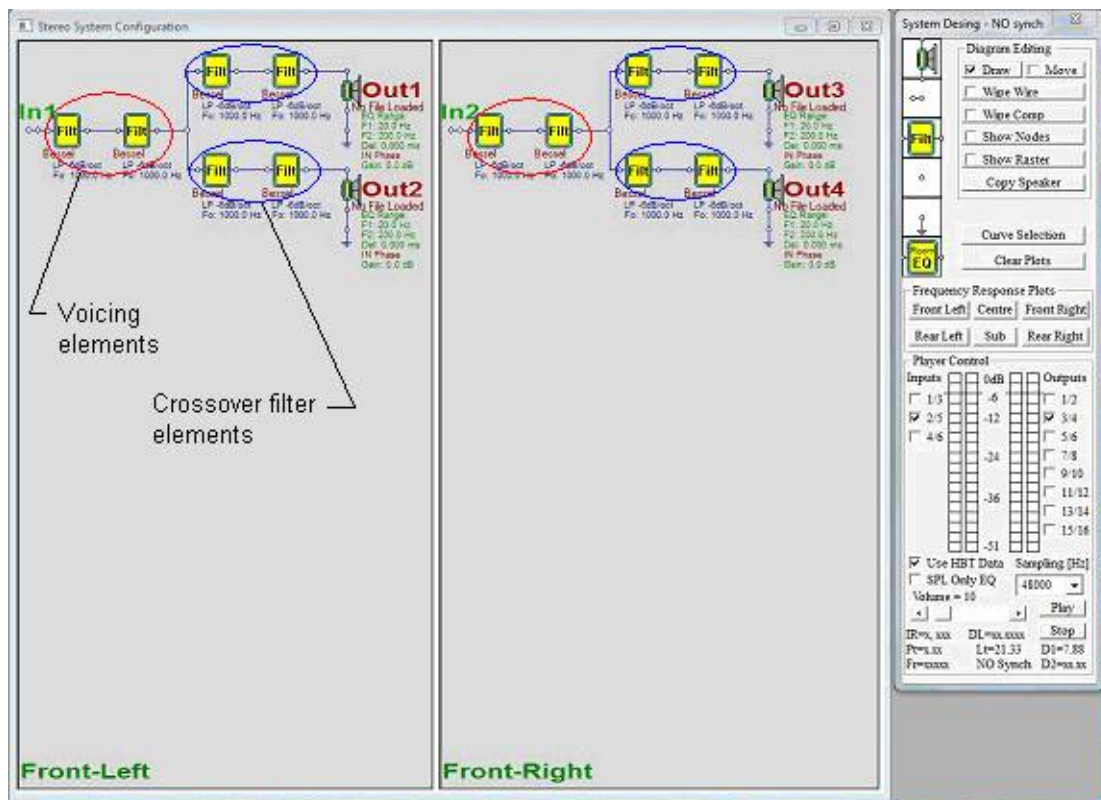

Figure 124. Cad screen appearance after selecting the Stereo 2 x 2 way configuration.
- The CAD screen will appear as shown in Figure 124. The default configuration for the stereo 2 x 2 way speaker consists, for each speaker, an input, then two filter elements which can be used for voicing the speaker, then two filter elements for each driver to set the acoustic targets for the high pass (tweeter) and low pass (woofer) bands. The input and output ports will be set to default values, shown in large green (input) and red (output) type by the input and driver elements, and may be changed if desired.